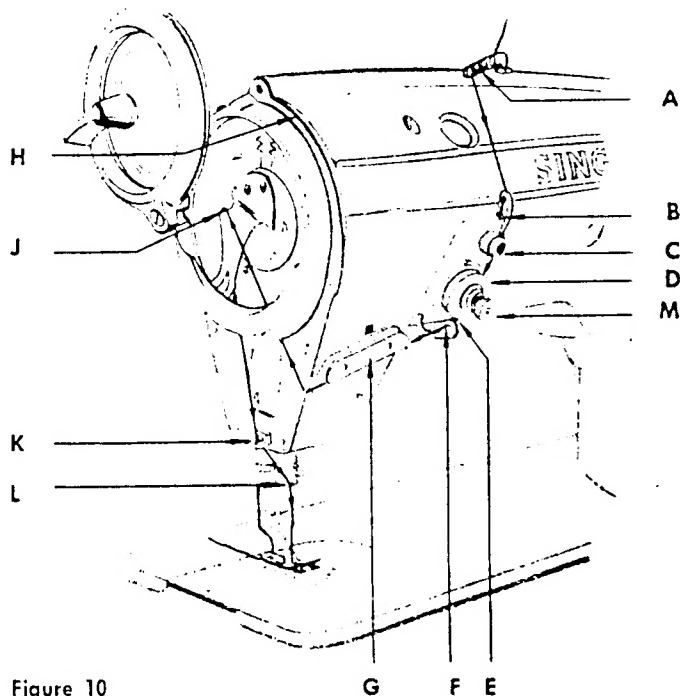

Figure 10
UPPER THREADING (Figure 10)
holder pass the needle thread from right to left through the rear hole of the thread guide "A", Fig. 10, on the arm cover and then from left to right through the front hole. Now draw the thread from right to left through the upper hole of the thread guide "B", Fig. 10, on the pretension and from left to right through the lower hole. Insert the thread from the right into the pre-tension "C", Fig. 10, pull it through the tension discs "D", Fig. 10, and lead it over the thread take-up spring "E", Fig. 10, under the thread pull-off "F", Fig. 10, and to the thread guide hole of the long thread guide "G", Fig. 10. Then pass the thread through the opening in front of the face plate "H", Fig. 10, over the thread take-up lever "J", Fig. 10, down through the thread guide eye "K", Fig. 10, through the needle bar thread guide "L", Fig. 10, and from front to rear through the eye of the needle.
- A The tension is regulated by means of the tension thumb nut "M", Fig. 10. The disc tension mounted onto the machine at the factory will preferably be used for the conventional type of sewing operations whereas for special operations requiring the use of synthetic threads the rotary tension No. 502663 will be supplied as an optional port.